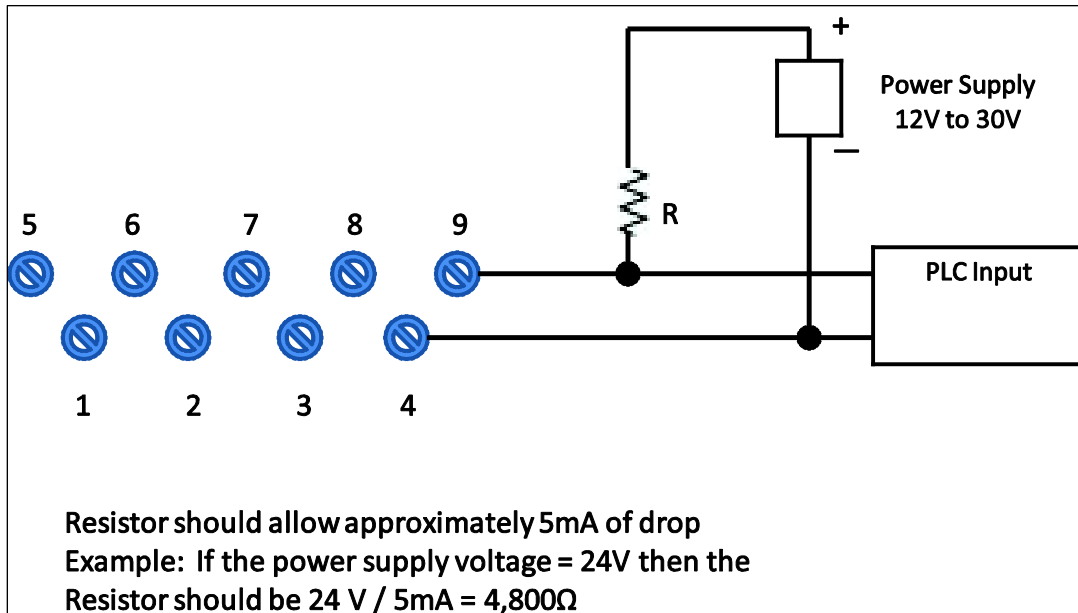

Figure 12– Digital Output Connections for PLC Counting Input
1. Refer to Figure 12 for test connections. Verify the integrity of electrical components in the output current loop.